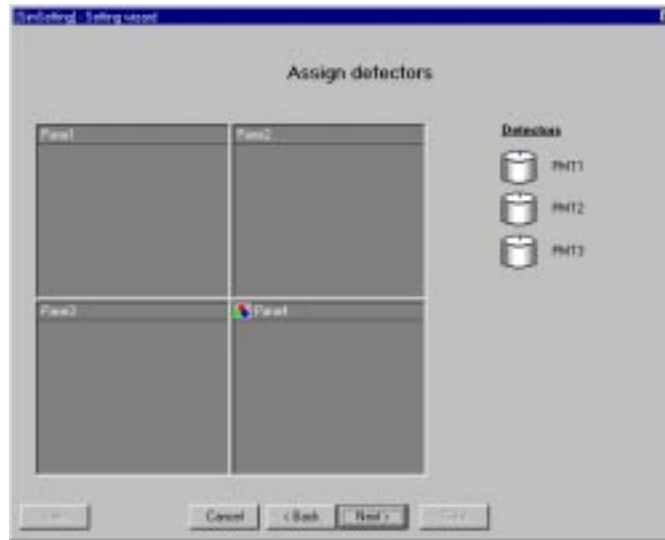

Figure 9 Assign detectors window, before changes
1. Drag each detector icon () for PMT 1, PMT 2 and PMT 3 (Fig. 9) into the Panes required. Ensure that every Non Merge Pane **has at least one Detector**, and a **maximum of three**, assigned to it.